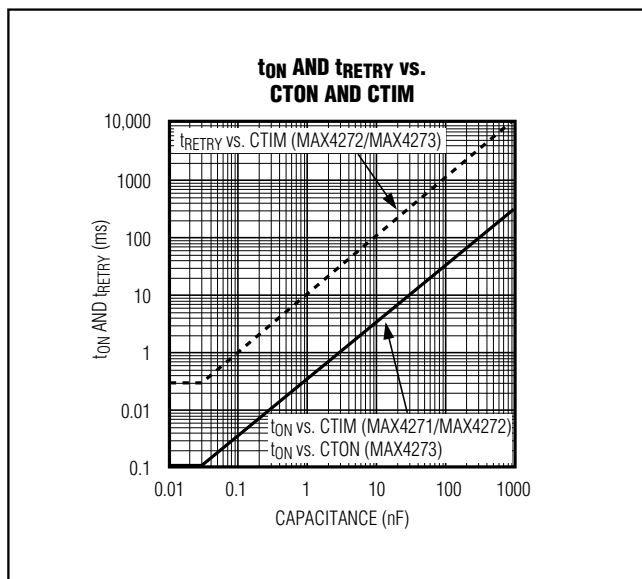

Figure 8. Startup and Retry Timeout
CTON determines the maximum time allowed to complete turn-on for the MAX4273. The default values for turn-on time (tON) and tRETRY are chosen by leaving these pins floating; they are 10μs and 320μs, respectively. These are also the minimum values (not controlled and dependent on stray capacitance). Longer timings are determined by the size of the capacitor according to Figure 8, and can be determined in Table 5, which lists the startup and retry timing parameters.
Use Figure 8 to determine CTIM given  $t_{RETRY}$ .
- From Figure 8,  $C_{TON} = 3000pF$ .